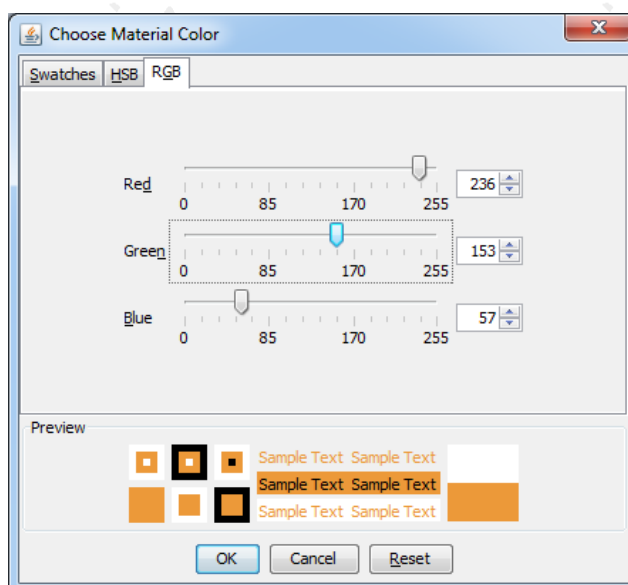

Figure 5: Choose Material Color - RGB window.
- Choose Material Color – RGB (Figure 5).